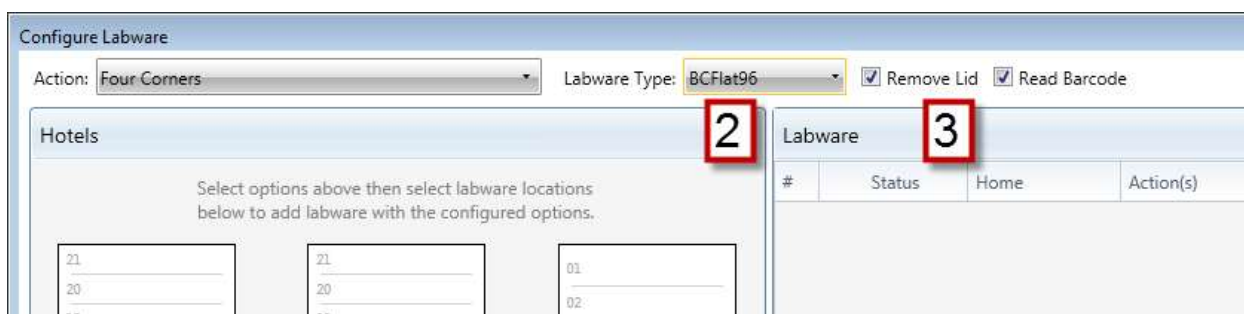

Figure 5 – Selecting Labware Type, Lid, and Barcode Options
10. After the actions have been selected, select the labware type used from the **Labware Type** drop-down box (Figure 5). Only labware that has been previously defined is listed here (refer to the “Defining New Labware” section on page 8 for instructions on adding a new labware type). The labware must also be compatible with the actions to be executed.
11. After selecting the labware type, check the **Remove Lid** box if the labware is lidded and the **Read Barcode** box if the labware has a barcode that should be read (Figure 5).